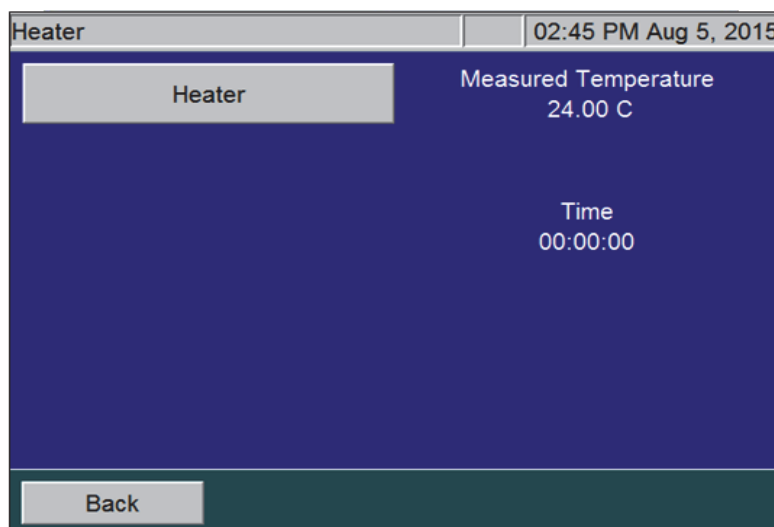

Figure 80: The Heater Screen
2. To start the test, press the **Heater** button (Figure 80). The button turns orange, the heater powers on, and the system begins going through its programmed heating and cooling profile.